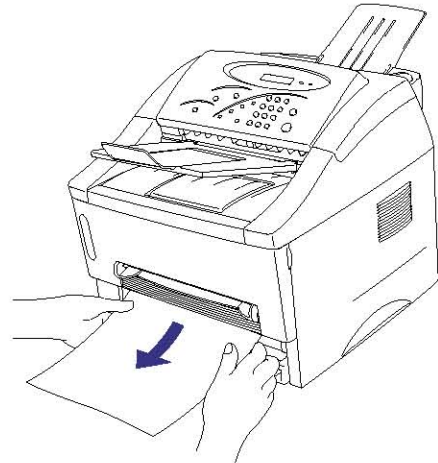

Fig. 7-1
- (1) Remove the paper cassette completely from the printer.
- (2) Pull any jammed paper up and out of the printer. (Fig. 7-1)